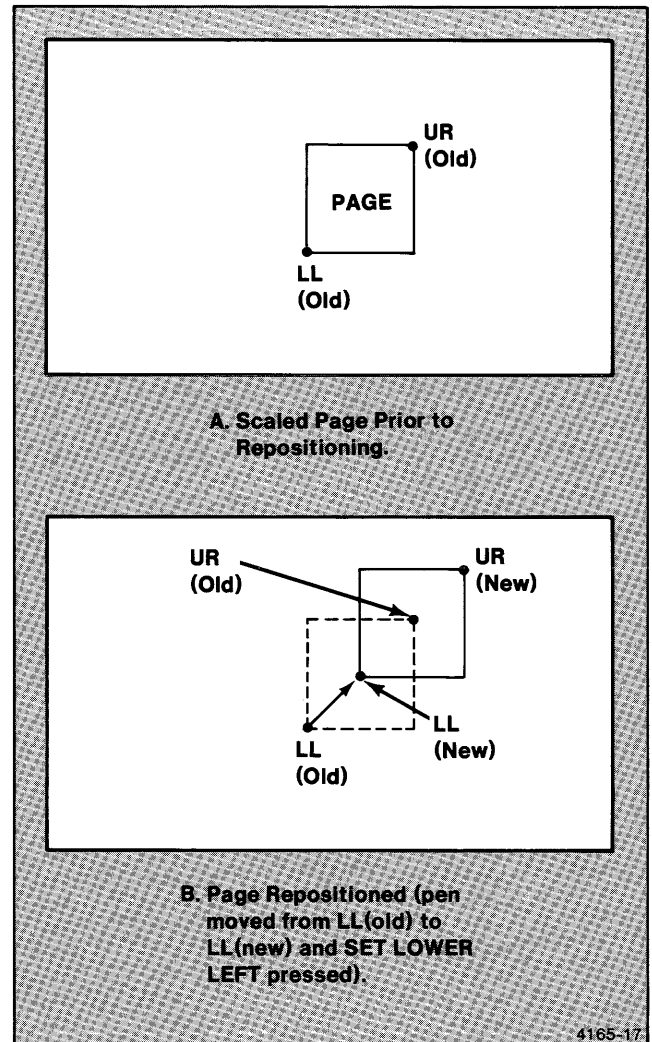

Figure 2-17. Page Positioning.
1. Use the joystick to position the pen over the desired lower-left corner of the page (see Figure 2-17).